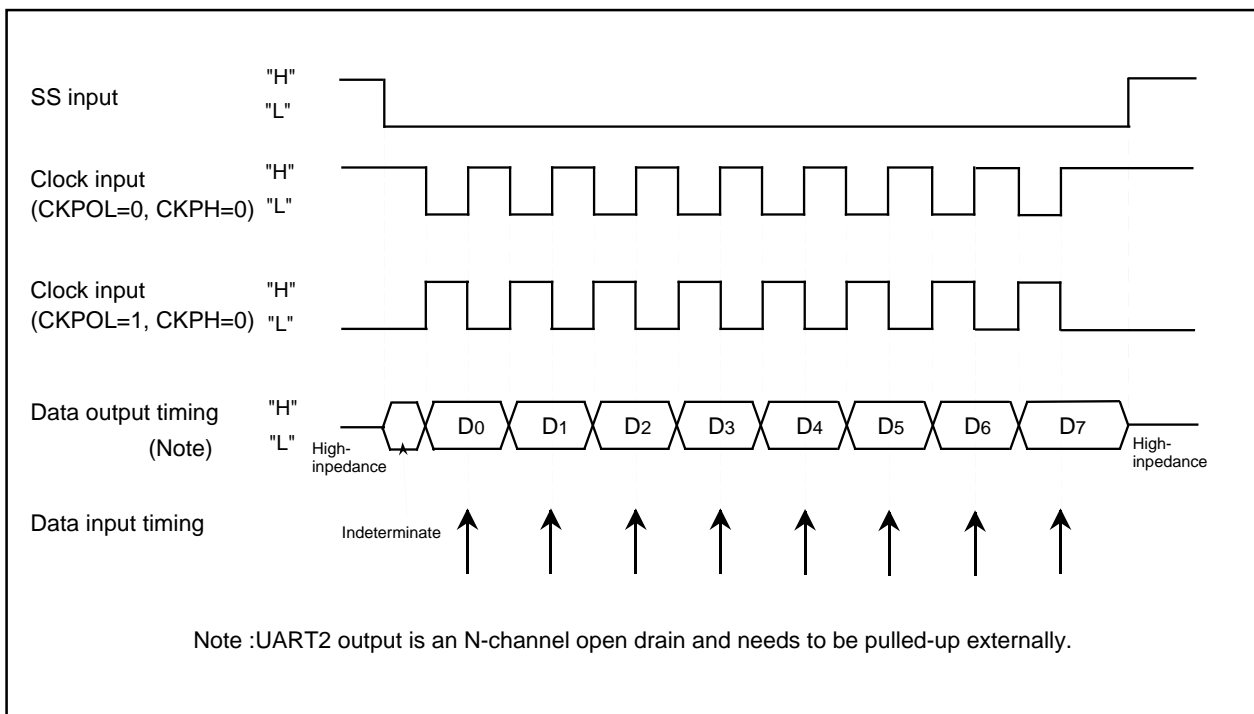

Figure 1.21.8. The transmission and reception timing (CKPH=0) in slave mode (external clock)
- With "0" for CKPH bit (bit 1 of UiSMR3 register), when an  $\overline{SS}_i$  input pin is H level, output data is high impedance. When an  $\overline{SS}_i$  input pin is L level, the serial transmission start condition is satisfied, though output is indeterminate. After that, serial transmission is synchronized with the clock. Figure 1.21.8 shows the timing.